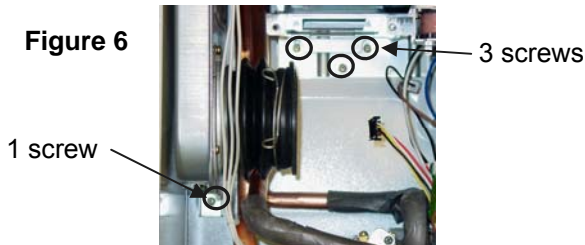

Figure 6
22. Remove 8 screws connecting the assembly to the water heater casing assembly. (Figures 6, 7)